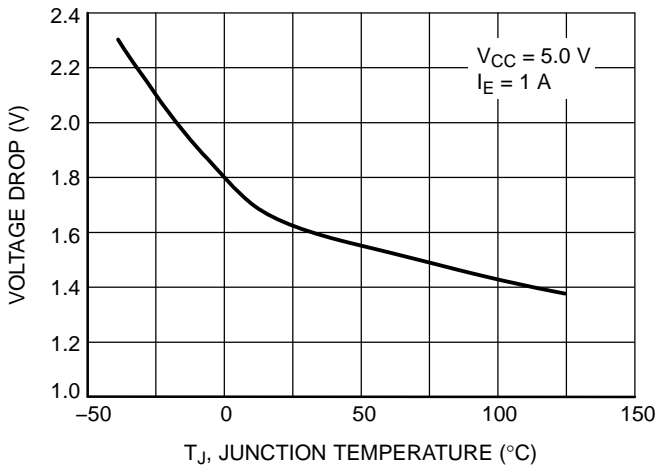

Figure 5. Emitter Follower Configuration Output Darlington Switch Voltage Drop vs. Temperature
9.  $V_{SWCE}$  – Darlington Switch Collector to Emitter Voltage Drop, refer to Figures 5, 6, 7 and 8.